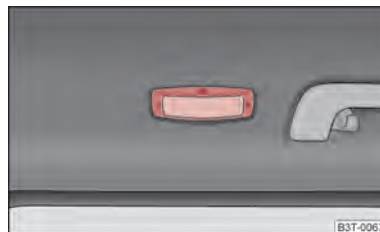

Fig. 44 Rear vehicle interior lighting
- Press the cover glass in the area of the symbol  ⇒ fig. 44.